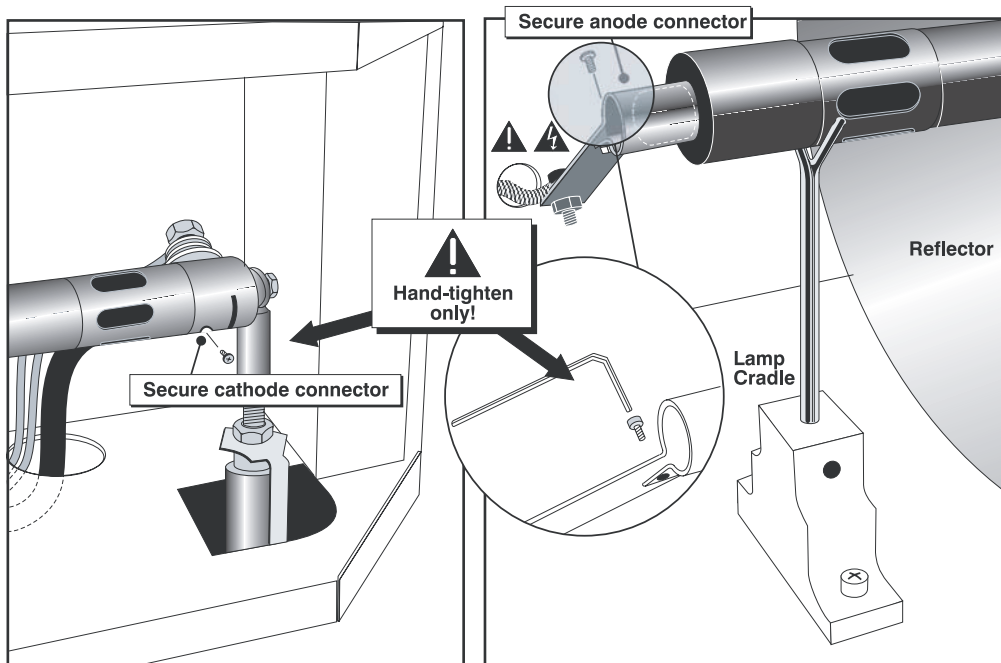

Figure 5-3. Securing Lamp Anode (+) and Cathode (-) Connectors
13. Tighten the set screws in both negative and positive lamp connectors; see Figure 5-3. If you accidentally touch the quartz body of the lamp with your bare hands, clean the surface as described in **Maintenance and Cleaning** on page 89.